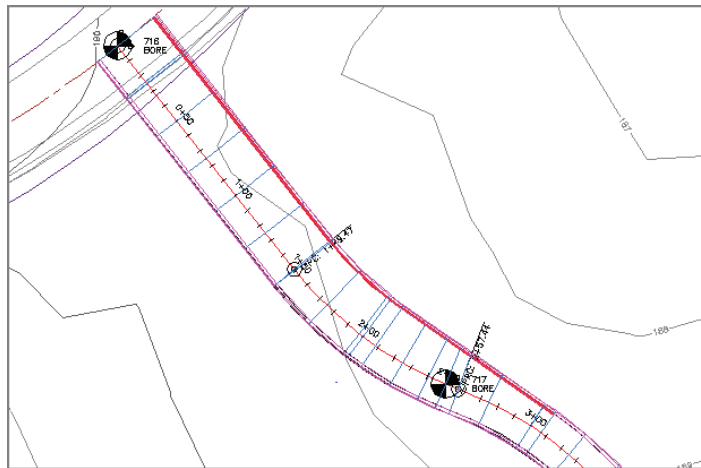

FIGURE 9.15 The corridor is wider where the lane-edge polyline was targeted.
8. Click OK twice to return to the drawing. The corridor is widened near the entrance, as shown in Figure 9.15. By widening the left lane this way, you make extra room for a turning lane.